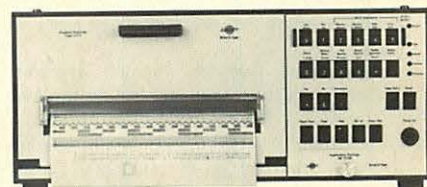

Fig.11. Graphics Recorder Type 2313
**Graphics Recorder Type 2313** (see Fig.11), is a fast digital graphics printer, which, when fitted with Application Package BZ 7002, can not only plot or list measurement results, but also store approx. 30 spectra or  $20 \times 1 \text{ K}$  (or  $2 \times 10 \text{ K}$ ) time functions, produce  $1/3$  octave and  $1/1$  spectra, re-format time functions and a number of spectra, plus perform integration and differentiation of spectra. The measurement results can then be stored on the 7400 Digital Cassette Recorder. A range of application packages are available for interface with other B & K instruments, see your B & K representative for details.